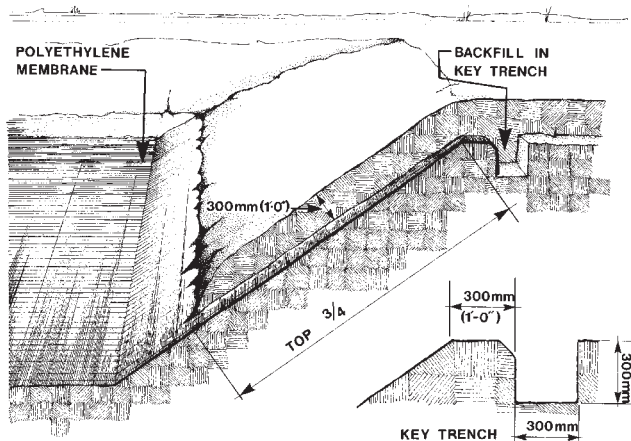

Figure 1. Details of plastic lining
Dugouts that are to be lined with polyethylene membranes require side slopes of 3:1 or flatter on all four sides (Figure 1). This sloping will minimize creeping and sliding of back-fill on the membrane. The polyethylene membrane should have a minimum thickness of 0.162 mm (6 mil). The membranes are available in rolls of 6 m x 50 m (20 ft x 100 ft) or 12 m x 30 m (40 ft x 100 ft). Individual membranes should be joined together by overlapping and connecting with two-sided tape. This method should form a continuous watertight lining.
**Method** – Finish the earthwork by removing large stones, sticks and irregularities. Compact the soil and dig a key trench on the top perimeter of the dugout. (See Figure 1). Place the top edges of the membrane in the key trench, and key it around the top and backfill the trench. Provide sufficient slack in the membrane to allow placement of the covering material without stretching or puncturing.